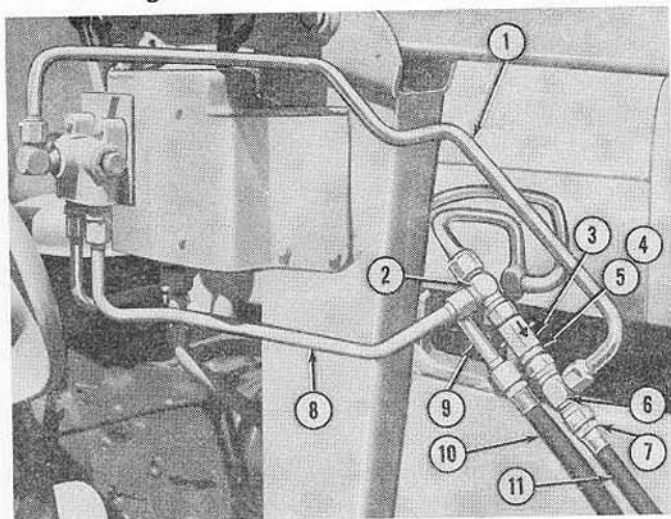

Figure 5
Self-Leveling Loaders: Be sure the hose assembly (10), Figure 5, from the piston end of the right-hand lift cylinder, is connected to the lower hydraulic tube (9), and the hose assembly (11), from the rod end of the cylinder is connected to the adapter (7), installed in the tee fitting (6). Verify that the "Free-Flow" arrow on the check valve assembly (3), is pointing toward the front of the tractor; also that the O-ring and connector (4) and (5), are installed as shown; and the tubes (1) and (8), are connected to the tee fittings (2) and (6), as shown. Correct if necessary. Tighten all fittings securely.